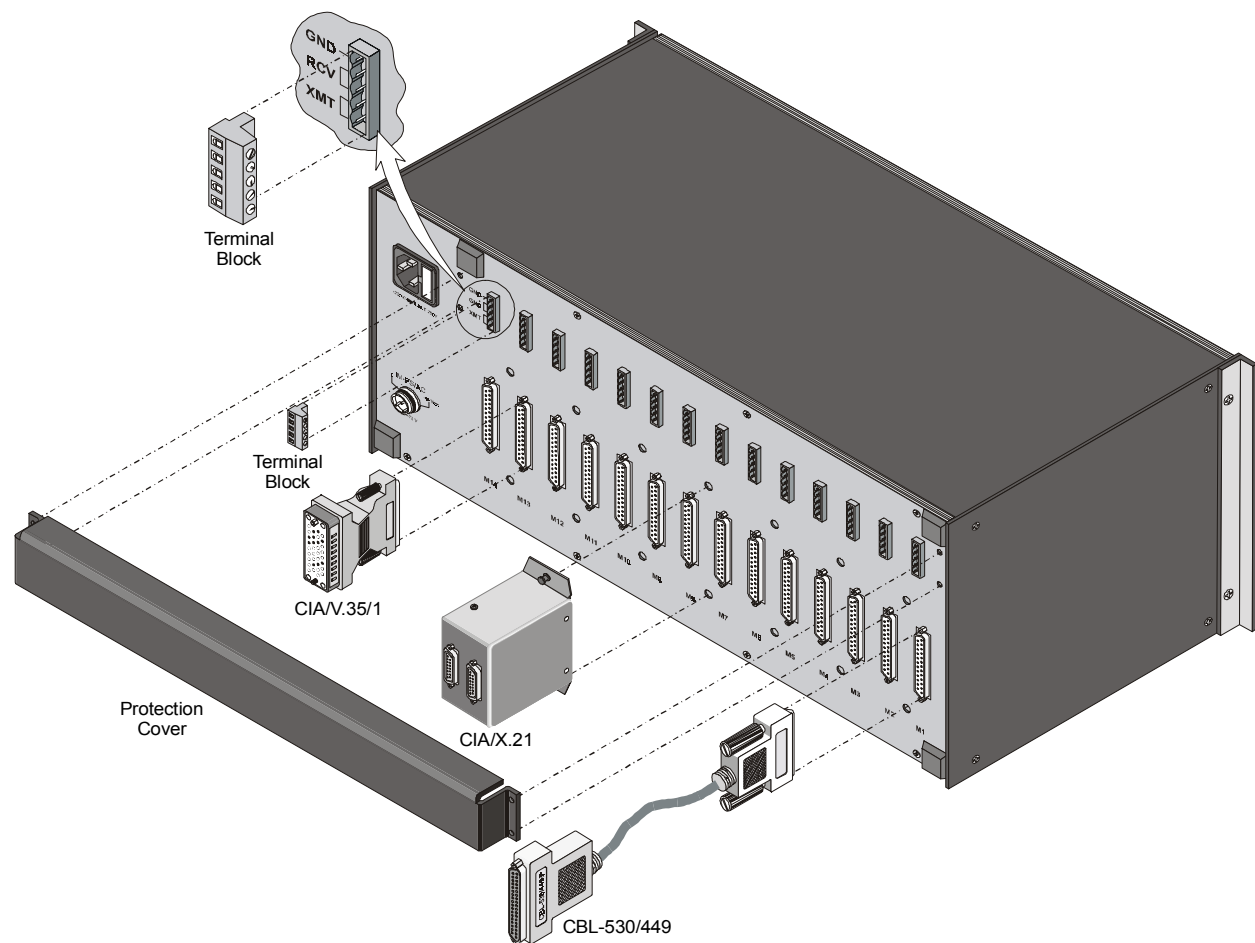

Figure 5-1 ASMi-MN-214 Rear Panel
For each of the 14 cards, the rear panel (see *Figure 5-1*) contains a male connector for the terminal block and a DB-25 connector. A protection cover protects the terminal block connectors.
The terminal block (see *Figure 5-1*) is to be attached to the rear panel terminal block connectors. It contains screws for connecting the transmit and receive pairs and ground, if present.
V.36 modem cards are supplied with a RAD adapter cable CBL 530/449F, which converts the DB-25 connector to a V.36 37-pin connector. The adapter cable and two interface attachments are also shown in *Figure 5-1*.